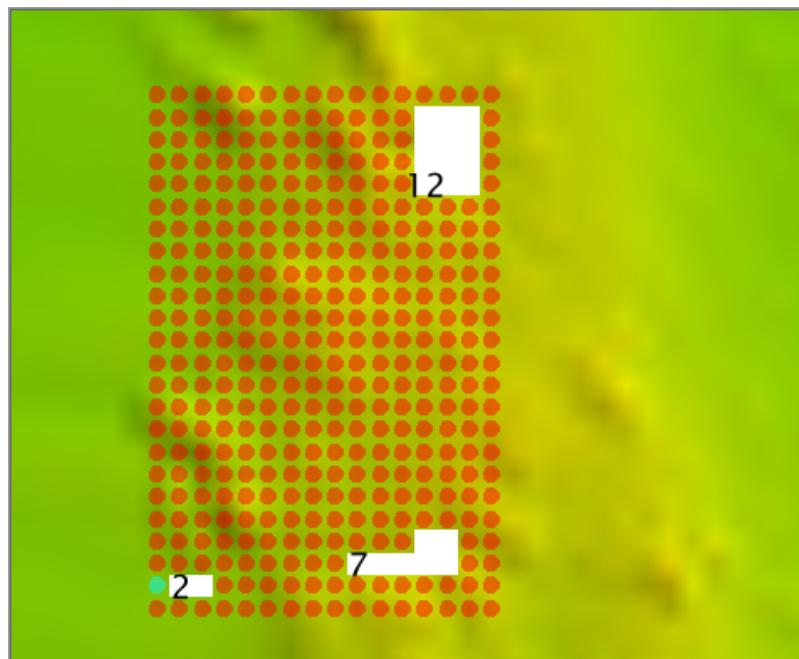

Fig. 2.21: Example for All holes.
- In the example in (Fig. 2.21), the **All holes** setting marks three holes of 12, 7, and 2 nodes.